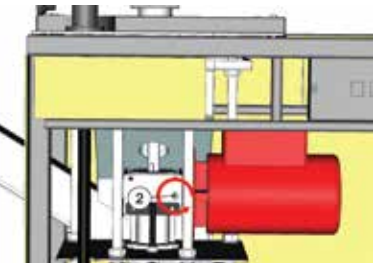

Fig 14.
2. Locate the gearbox knob(2; Fig 14), open the knob with the Allenkey (Size:M8)